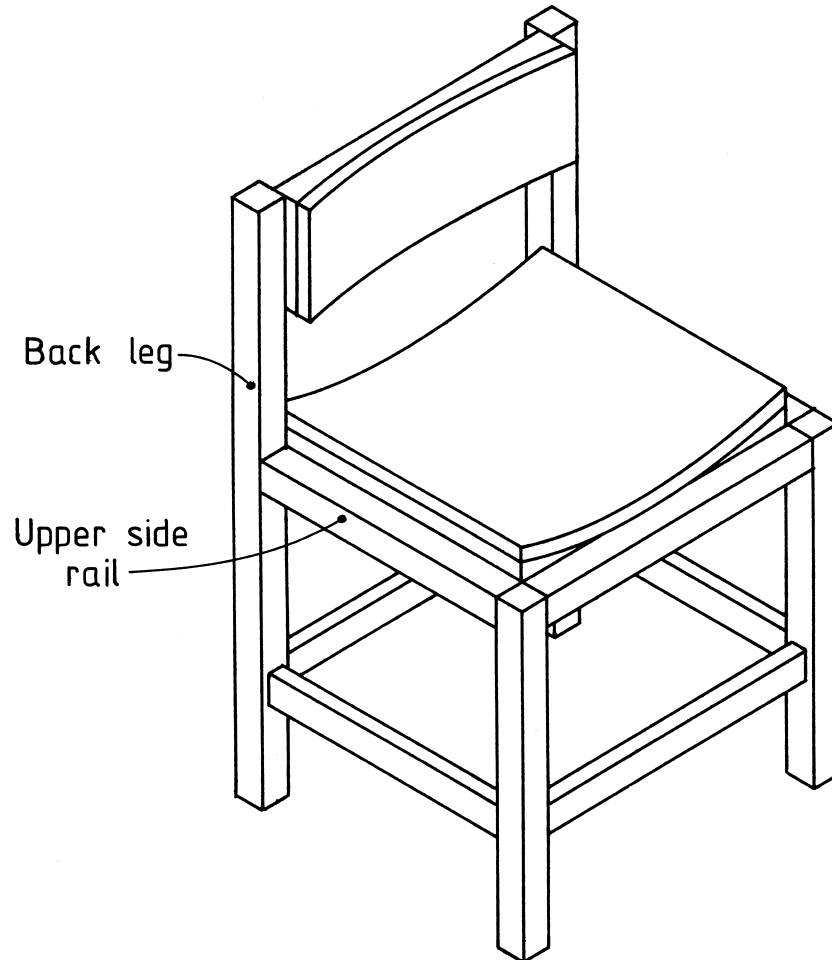

FIG. 3. DINING CHAIR
Figure 3 shows a pictorial sketch of a dining chair.
- (a) A manufacturer of the dining chair shown in Figure 3 must consider a number of issues when planning the mass production of the chair.